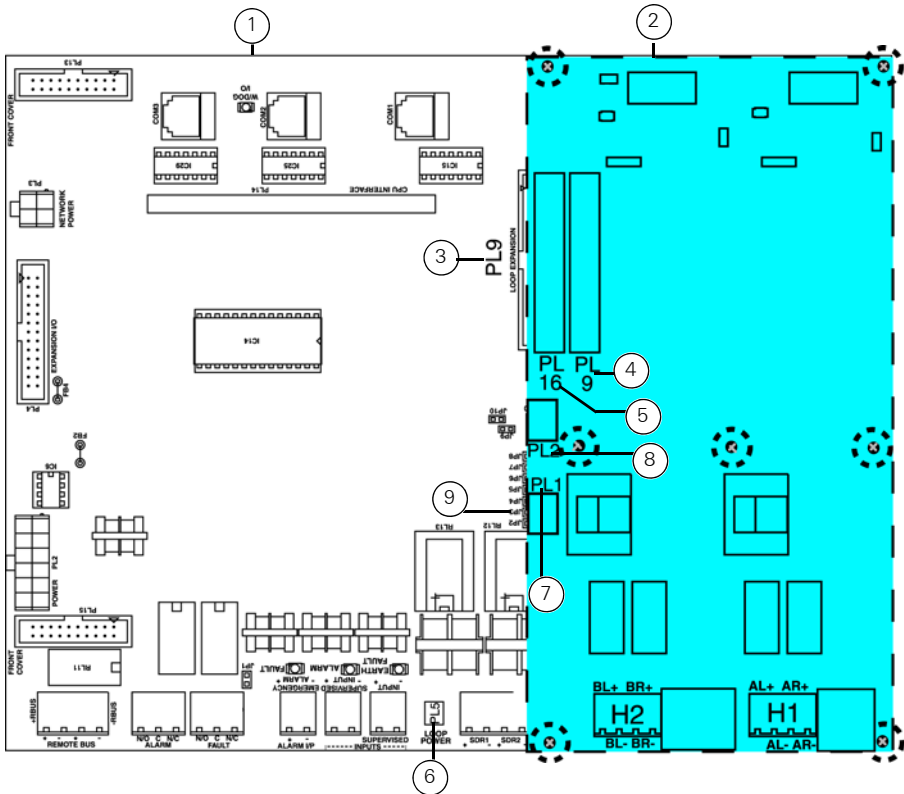

Fig. 2: XLM800 Mounting to FIM
1 x XLM	Base Link (JP3 fitted (see item 9 in Fig. 2)), FIM loops (A&B) XLM loops (C&D)
- 5 Mount the FireClass XLM to the FIM using the stand-offs (supplied) at the positions shown (circled) in Fig. 2.
6 Connect the ribbon cable from PL9 on FIM (see item 3 in Fig. 2) to PL16 on the FireClass XLM800 (see item 5 in Fig. 2).
7 For adding an XLM800 to an 2 loop panel, taking power from the PMM800, then connect 4 way cable from FIM PL5 (see item 6 in Fig. 2) (LoopPower) to the FireClass XLM800 PL1 (see item 7 in Fig. 2).